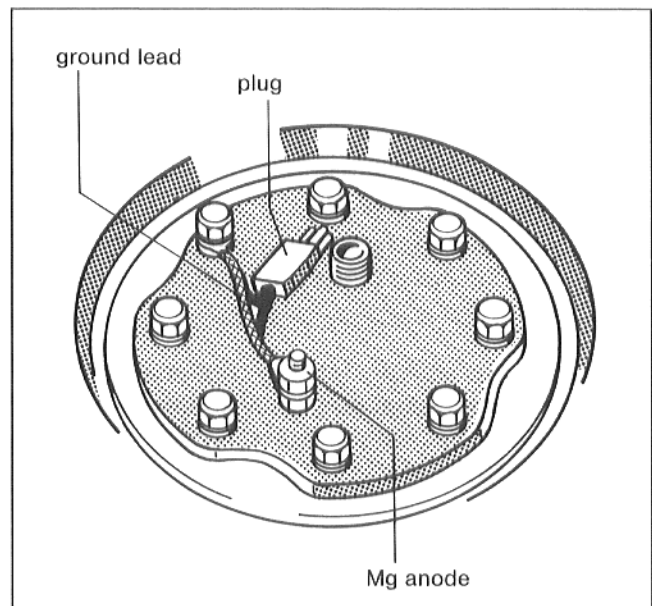

Fig. 10
- Check whether the ground lead of the magnesium anode is connected to one of the fastening screws of the inspection port lid (Fig. 10).
- Control panels Ecomatic 4000; pull off plug with ground lead (Fig. 10).
- Unscrew the hexagonal head bolts from the inspection port lid and remove it with the magnesium anode (Fig. 10).